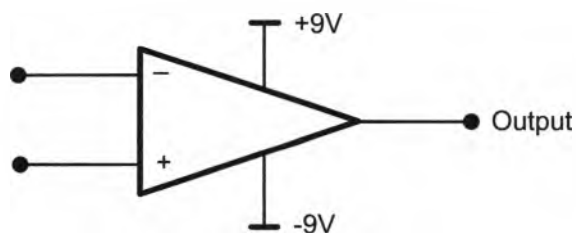

Figure 1
10. For the circuit of Figure 1, indicate on the table below whether the output voltage is +9V or -9V given the input voltages given.